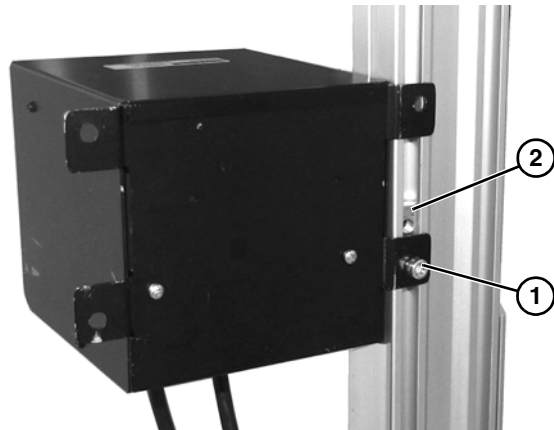

Figure 23
2. Raise controller to its approximate mounting position and tighten screw (**Figure 23, item 1**) to temporarily fix the controller position. Then, insert 2nd T-bar (**Figure 23, item 2**) into T-slot as shown.